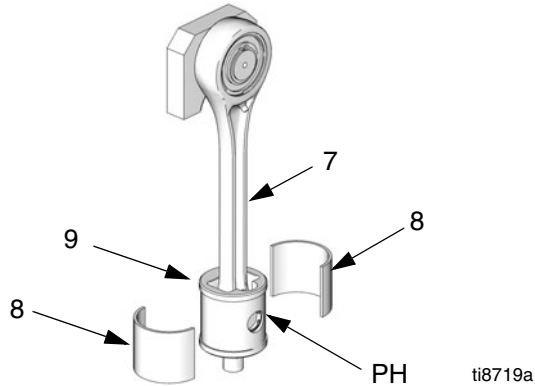

FIG. 5. Slider Bearings
- See FIG. 5. Ensure that the joints between the bearings (8) align with the pin hole (PH) in the slider piston.